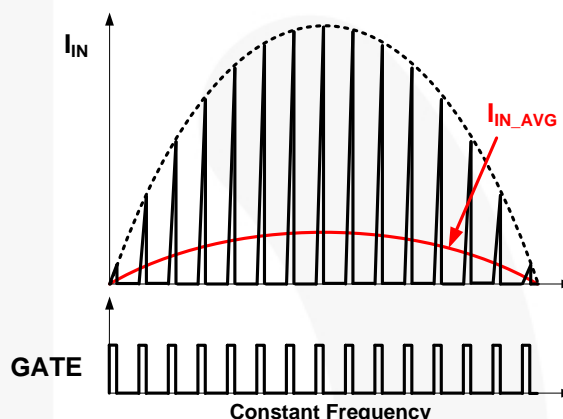

Figure 16. Input Current and Switching
In a conventional boost converter, Boundary Conduction Mode (BCM) is generally used to keep input current in phase with input voltage for Power Factor (PF) and Total Harmonic Distortion (THD). In flyback / buck boost topology, constant turn-on time and constant frequency / Discontinuous Conduction Mode (DCM) can implement high PF and low THD as shown in Figure 16. Constant turn-on time is maintained by the internal error amplifier and a large external capacitor (typically over 1μF) at the COM1 pin. Constant frequency and DCM operation is managed by linear frequency control.